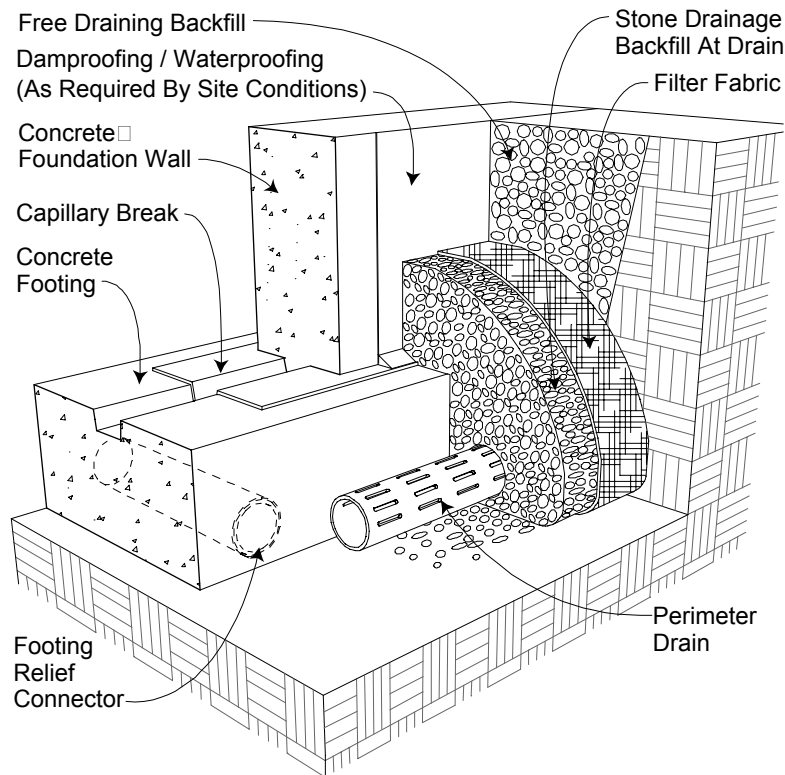

Figure 2 – Perimeter Drainage System along Footer
10. Perimeter foundation drainage system installed along side the footings as shown in Figure 2.